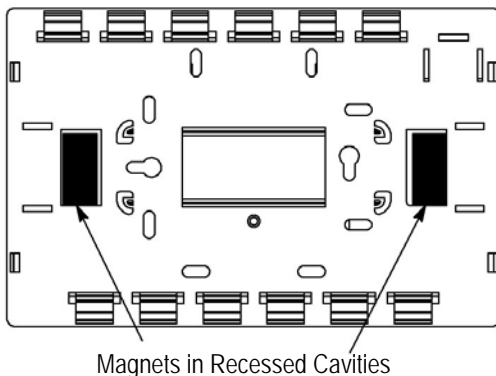

Figure 2
3. MOUNTING PROCEDURES (See Figure 2)